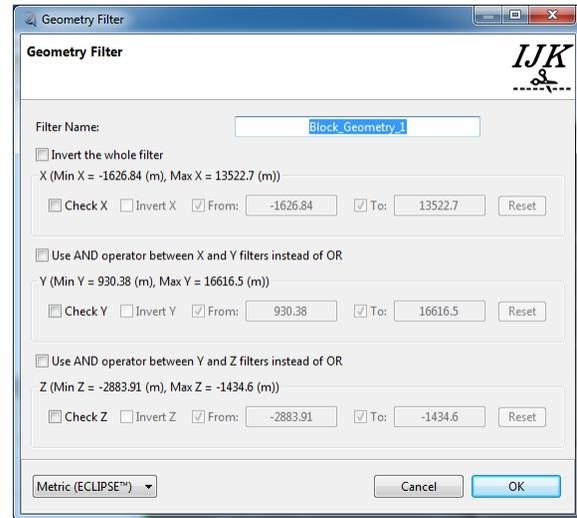
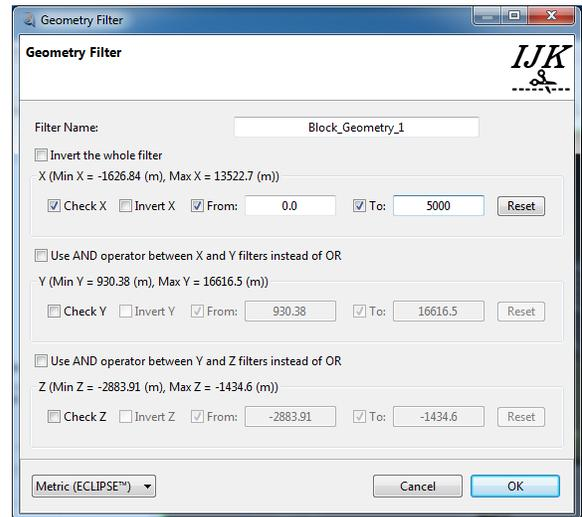
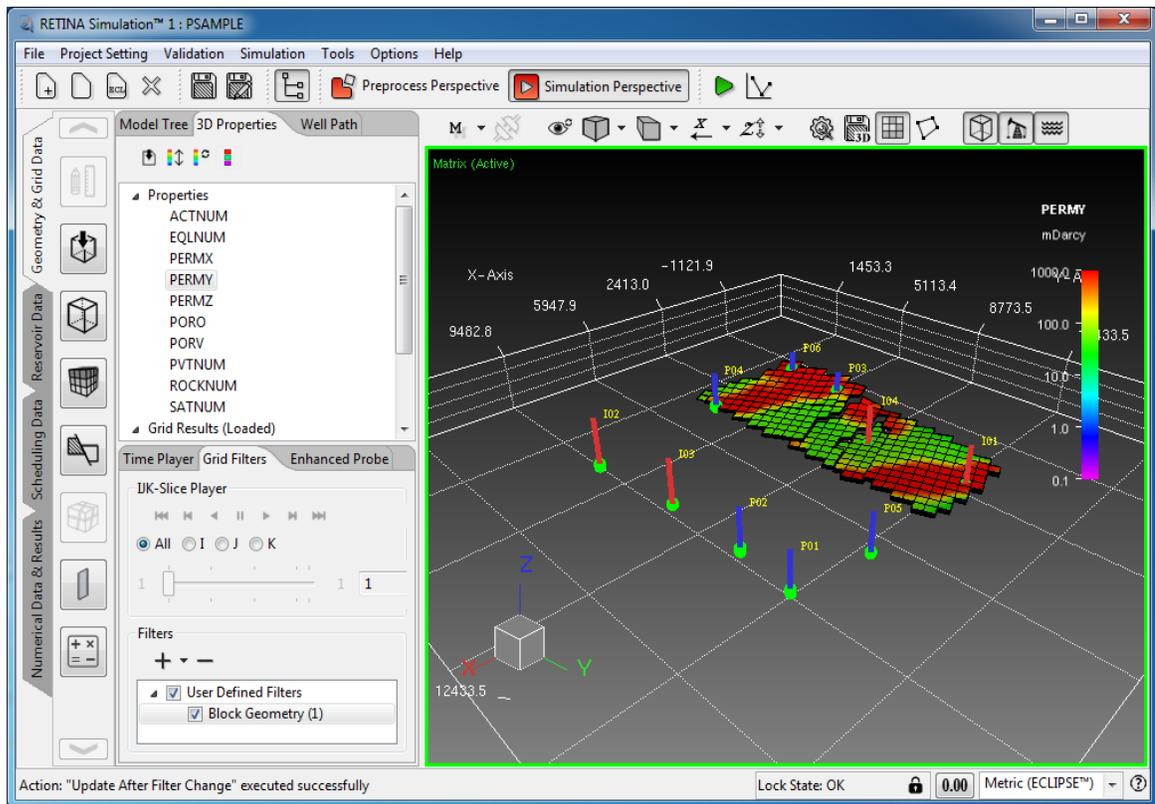
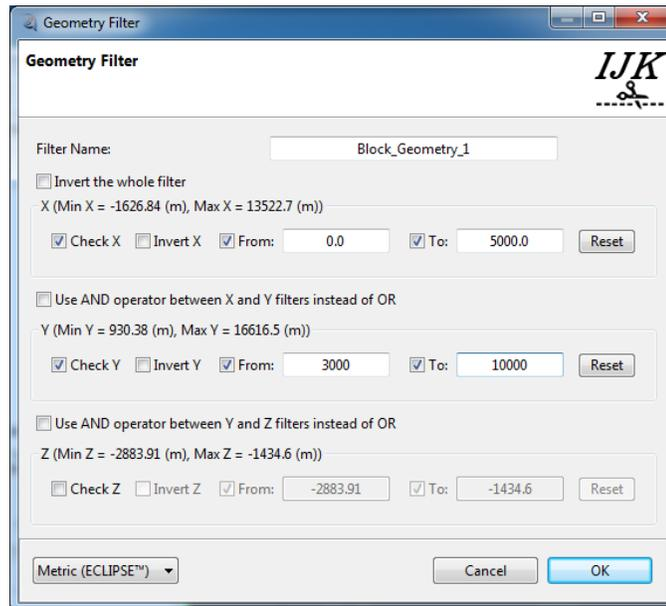

Figure 30 Adding Block Geometry Filter
Figure 31 Adding Block Geometry Filter from 0 to 5000m in “X” Direction
Figure 32 Applied Block Geometry Filter from 0 to 5000m in “X” Direction on 3D View
Figure 33 Adding Block Geometry Filter from 0 to 5000m in “X” Direction and from 3000 to 10000m in “Y” Direction
2. *Block Geometry Filter*: the dialog of the Figure 30 is displayed if user wants to add block geometry filter. Initially none of the boxes are checked which means no filter is added to 3D view. The name of the “Block\_Geometry\_##” is assigned to the defined block geometry filter, by default; this name is editable. For adding filter on each direction, user should just check the related box and enter the minimum and maximum coordinates in the specified direction. For example the Figure 31 displays the configurations for adding a filter from 0 to 5000 meter in the “X” direction. Clicking on the OK button, filter will be applied on 3D view (Figure 32). Note that the editing of the defined filter is allowed by double clicking on the added one in the Filters section. If user unchecks the “From” or “To” field values the minimum and maximum coordinate of the model in desired direction is assumed for them, respectively. User can define filters on two or three directions, for example the Figure 33 displays the filter configuration for 0 to 5000 m in “X” direction and 3000 to 10000 m in “Y” direction.